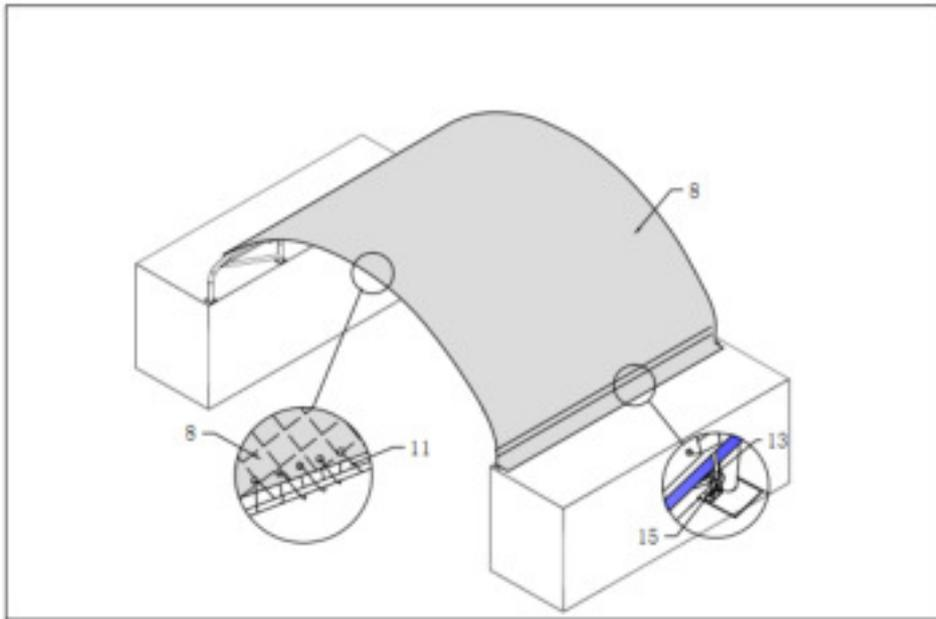

Figure 10
3. As **Figure 10 shown**, Cut **some pockets** according to the position of the base plates and put the lower tensioning tubes for roof cover (**part code 7**) into the pocket of roof cover. Then use Straps (**part code 13**) to tie down the Lower tensioning tubes like the Figure. Finally install the ϕ 32 Plastic plug for base rail section (**part code 12**) into two end of the lower tensioning tubes.